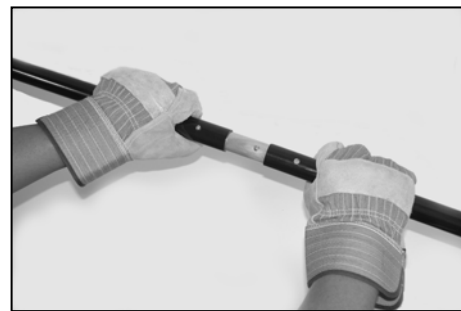

Fig 9
1. Wearing gloves, depress snap buttons on one end of splice (I) while inserting splice into the end of the handle (G), opposite the head just attached.
2. Gripping powder-coated blue surfaces, depress snap buttons on other end of splice and insert splice into gripped handle (J), snapping into position. (figure 9)